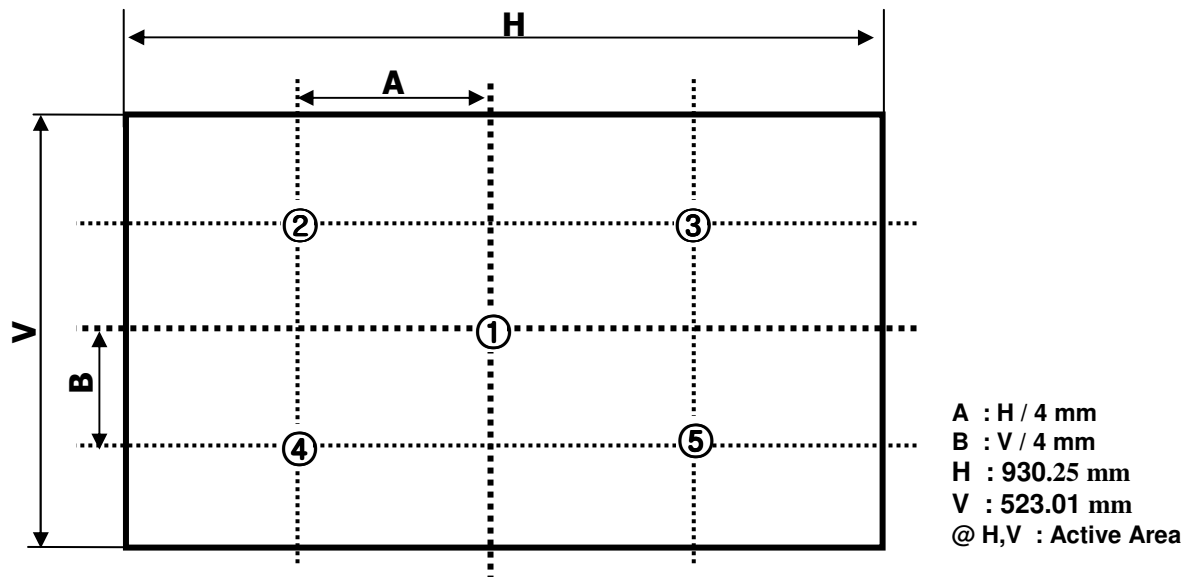

FIG.2 Measure Point for Luminance
2. Surface luminance is the luminance value at center 1-point across the LCD surface 50cm from the surface with all pixels displaying white. For more information see the FIG. 2.
For more information, see the FIG. 2.